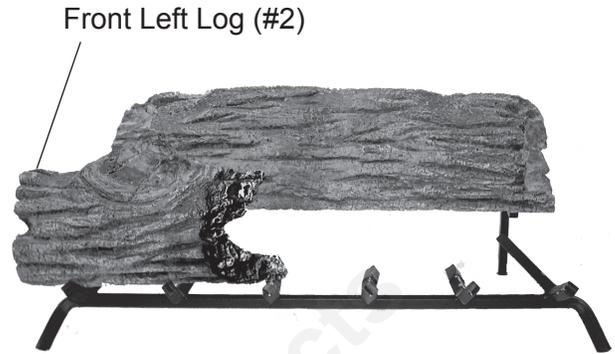

Figure 33 - Placing Front Left Log (#2) on Grate
- Place front left log #2 on the front of the grate and to the left. See Figure 33.